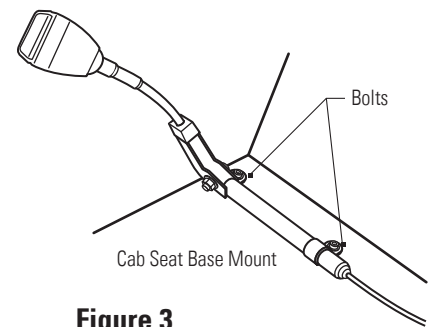

Figure 3
3. Position the unit in place. Make sure wiring harness is free and not pinched under unit. See **FIGURES 3, 4 & 5**
5. Position the unit on the cab seat base (see **FIGURE 3**), cab engine tunnel wall (see **FIGURE 4**), or cab wall (see **FIGURE 5**) and align the holes with the mounting holes on the unit.
7. Torque each mounting bolt (2) on Buckle Pretensioner to 35 to 40 ft.-lbs.